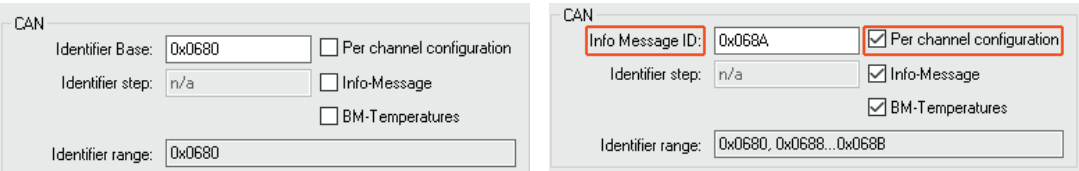

Fig. 6-37: Device configuration dialog, dialog section **CAN**
- ▶ The name of the **Identifier base** field changes into **Info Message ID** Fig. 6-37. This field then displays the start ID of the optional CAN message that has been activated first.